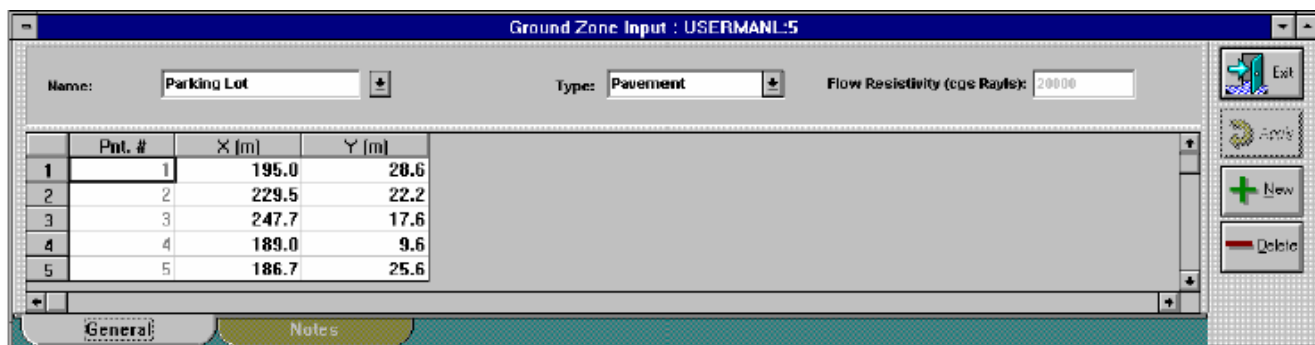

Figure 45. Ground-zone input: General tab.
2. Select **General** on the ground-zone input dialog (see Figure 45).